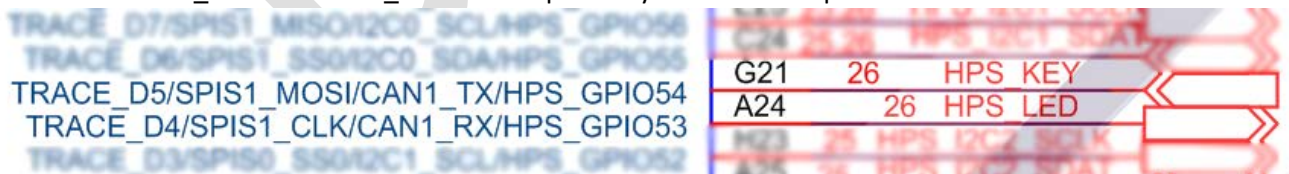

Figure 7-5. HPS_KEY & HPS_LED on DE1-SoC Schematic
18. The right side of Figure 7-5 shows the area of interest on the DE1-SoC's schematics. We see that "HPS_KEY" and "HPS_LED" are respectively connected to pins G21 and A24.
19. Figure 7-5 allows us to explain what Qsys' *Peripheral Pins* tab does. The Qsys GUI doesn't make any reference to pins G21 and A24, as they depend on the device being used, and cannot be generalized to other Cyclone V devices. However, the GUI does have references to what is displayed on the left
side of Figure 7-5. We will examine the details of pin G21, to which “HPS_KEY” is connected. The schematic shows that pin G21 is connected to 4 sources: